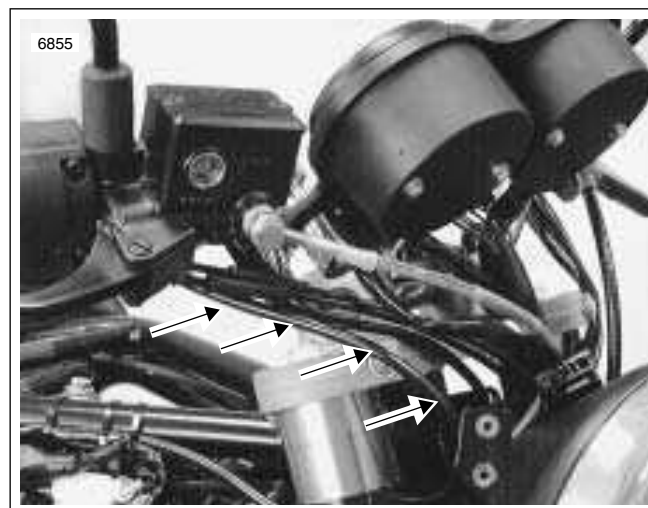

Figure 7-52. Routing Handlebar Wires, Right
3. See Figure 7-52. Route switch housing wiring harness between front forks and along right side frame tube. Attach connector [22] and, if necessary, connector [21] to wiring harness. Fasten wiring harness to frame with **new** cable straps.